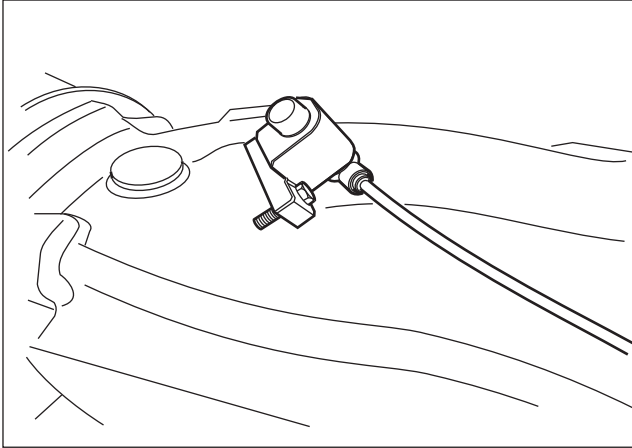

Fig. 3.19
20. Insert the ABS sensor completely in the bushing and after that in the appropriate bracket. - Fig. 3.19